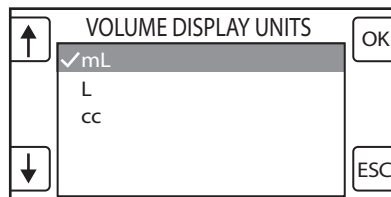

Figure 13 Sample System Setting Screen
6. From the System Setting screen, push the buttons next to the arrow icons to highlight or adjust the appropriate setting option (see figure 13). See *System Setting Options* table for available setting options.